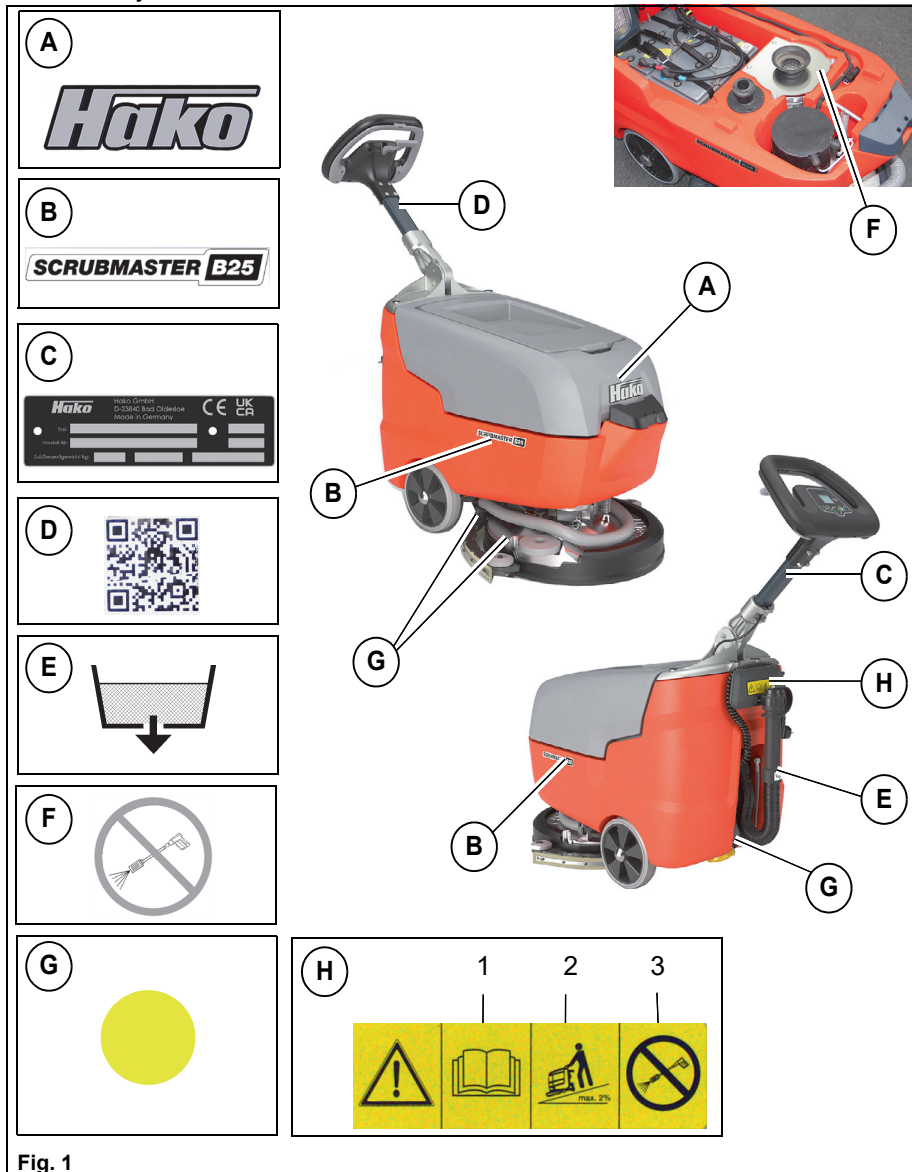

Fig. 1
The Hako company logo **Fig. 1-A** is located on the front of the waste water tank.
The label **Fig. 1-B** is located on both sides of the solution tank.
The type plate **Fig. 1-C** is located on the steering bar.
The label **Fig. 1-D** is located on the steering bar.
The label **Fig. 1-E** is located on the drain hose of the waste water tank.
The label **Fig. 1-F** is located in the vicinity of the suction turbine beneath the waste water tank.
The yellow dot **Fig. 1-G** is located:
- **Read and observe the operating manual Fig. 1-H1**
- **Maximum permissible slope 2 % when cleaning Fig. 1-H2**
- **Never clean the machine with a high-pressure cleaner Fig. 1-H3**